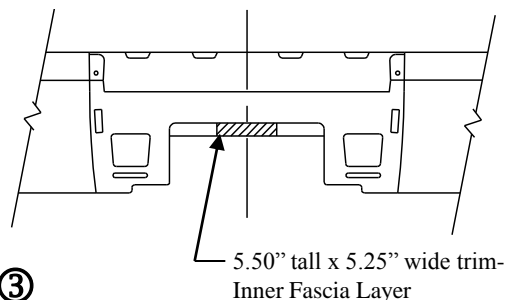

Figure 3
3. Install hitch and reinforcement brackets as shown in Figure 2 (on 2002 and later models, trim fascia as shown in Figure 3).